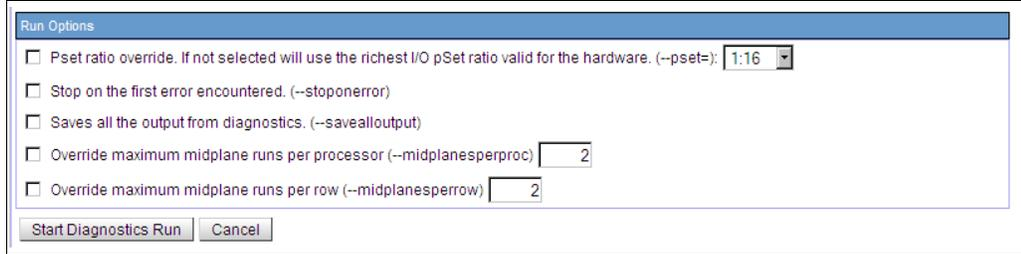

Figure 8-7 Run Options
5. At the bottom of the page, you can select the Run Options. See Figure 8-7.